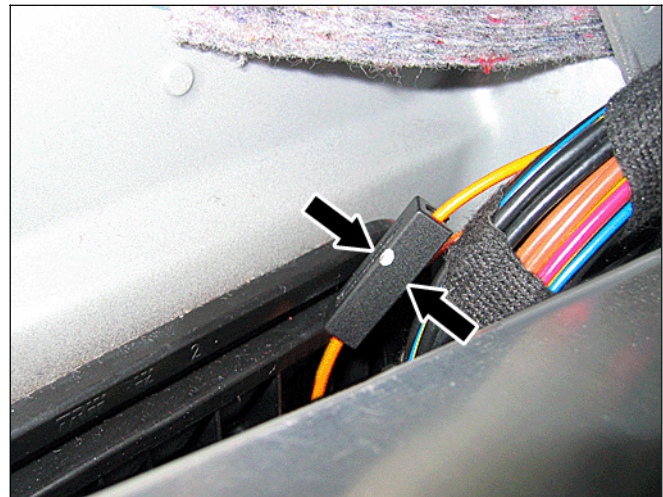

Figure 8
2. Find the MOST fiber optic coupler behind the Car Navigation/CD Changer bracket assembly (Figure 8).